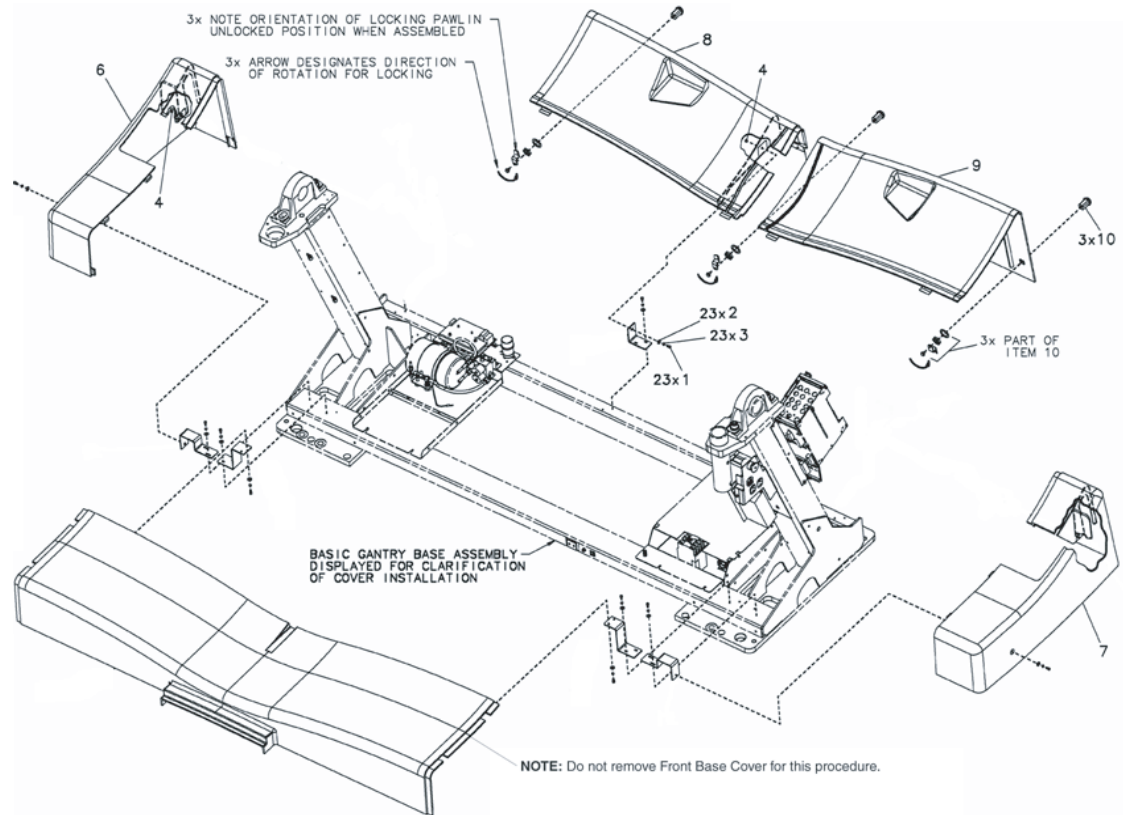

Figure 1-1 Gantry Base Covers
- 5.) Remove both left and right Gantry side base covers (items 6 & 7, respectively, in Figure 1-1) and then both rear base covers (items 8 & 9, in Figure 1-1).